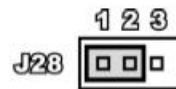

Fig. 2.5 – Position of the Jumper J27
- Connect the jumper J28 to positions 1 and 2 as shown in Fig. 2.5. This will allow you to latch the converted digital signal manually by pressing the push button PB2.